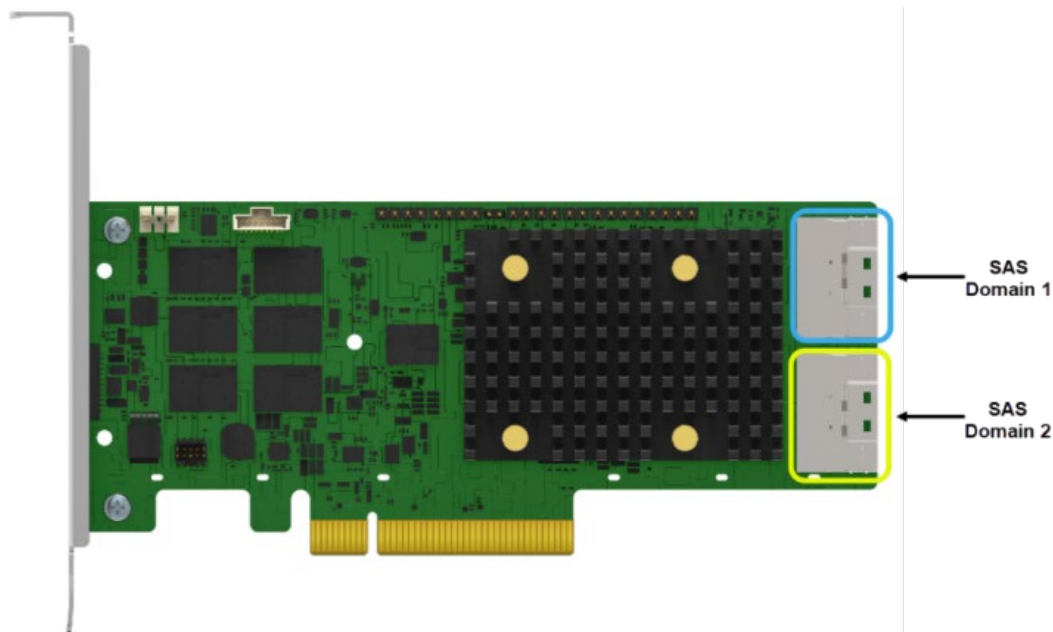

Figure 8. Intel® RAID Adapter RS3P4TF160F SAS Port Domain Identification
- The SAS expander cards identified above can support one (1) or two (2) input SAS port cables.
- When routing two (2) input SAS port cables from the Intel RAID adapter, use cables from the same SAS domain, as illustrated in Figure 8.